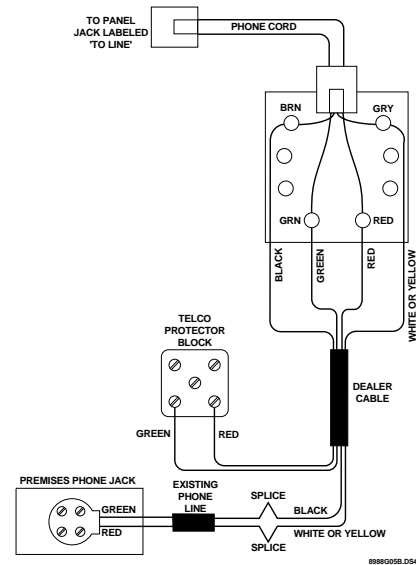

Figure 8. RJ-31X Wiring Diagram
1. Install and wire the RJ-31X jack as shown in Figure 8.